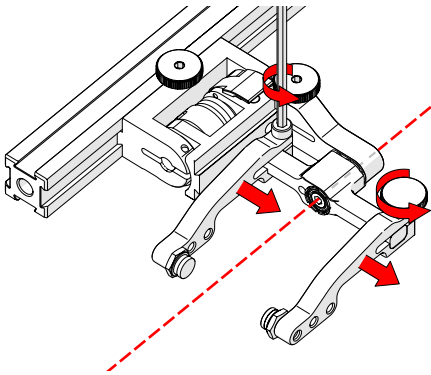

Fig. 134 - Adjust probe holder arms
5. Loosen the probe holder arm adjustment knob (Fig. 134) and remove outer probe holder arm from yoke.
6. Adjust the inner probe holder arm as required to best centre the probe on the yoke's pivot axis (Fig. 134).
TIP: The probe holder yoke can accommodate many different probe and wedge sizes of varying widths. It is best to centre the wedge with the yoke's pivot axis to reduce wedge tipping when scanning. Position the inner probe holder arm accordingly with the centre of the yoke (Fig. 134).